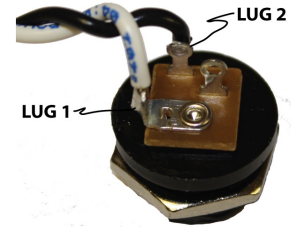

fig 12
- 4) Insert the power jack through the hole in the back wall of the box and tighten the nut on the outside of the box using a 15mm wrench (fig 12).